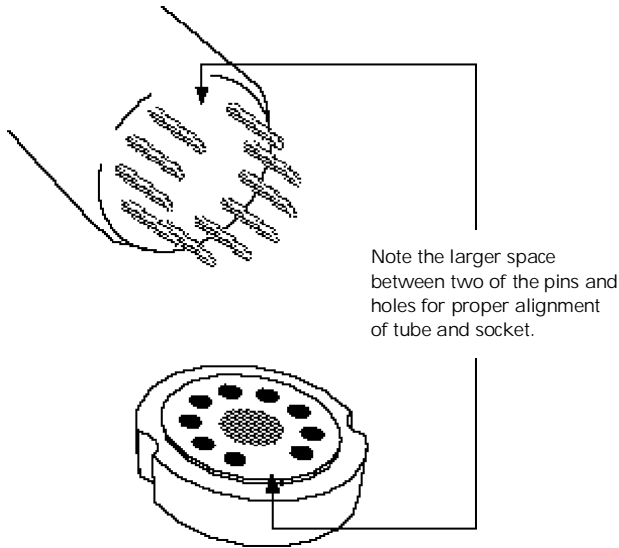

Figure 10 - Tube pin alignment with the socket.
5. Take the LV1 tube and inspect the pins noting the large space between two of the pins. This space will align with the same larger space between two of the pin holes on the socket. Insert the LV1 tube into the LV1 tube socket, making sure all pins and pin holes are aligned (see Figure 10). Do not force the tube into the socket. Rock the tube gently while pushing slowly until the tube is firmly seated. Repeat this step for the remaining tubes, LV2 tube to the LV2 tube socket etc. V1 tube to the V1 tube socket, V2 tube to the V2 tube socket etc.